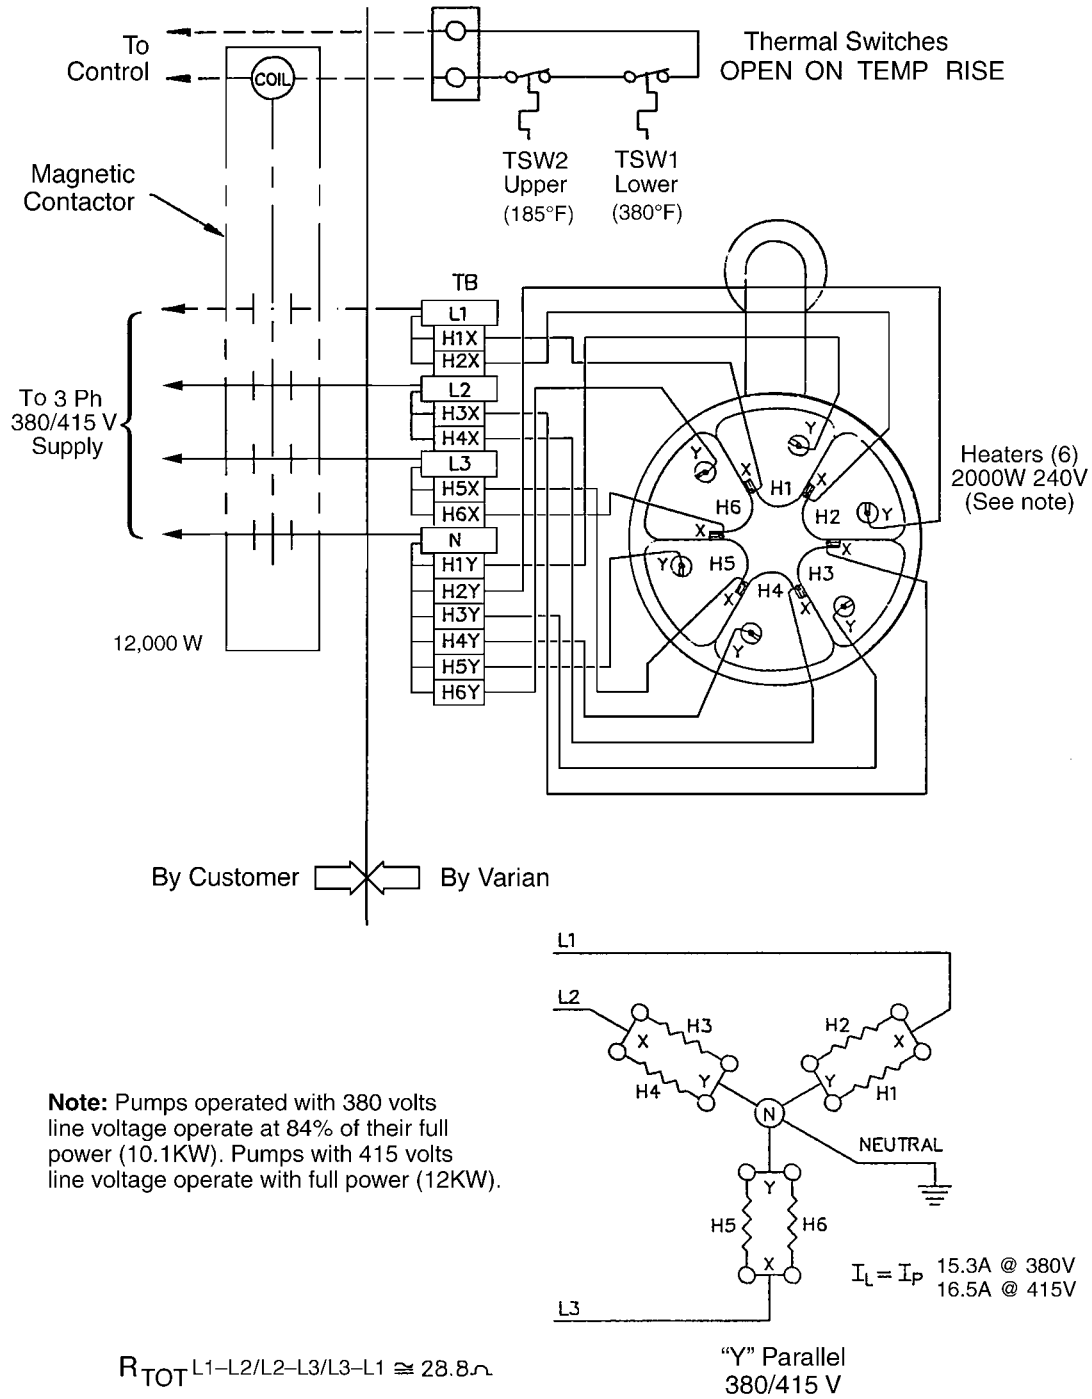

Figure 1-5. 380/415 V Wiring Diagram – HS-20 Diffusion Pump
- c. If the pump is hot, wait until the pump has cooled then vent it to atmosphere. Remove the plug from the filling port of the pump and install the needed quantity of fluid up to the FULL COLD level indicator on the sight glass (see Figure 1-5). The fluid can also be poured in from the pump inlet or foreline.